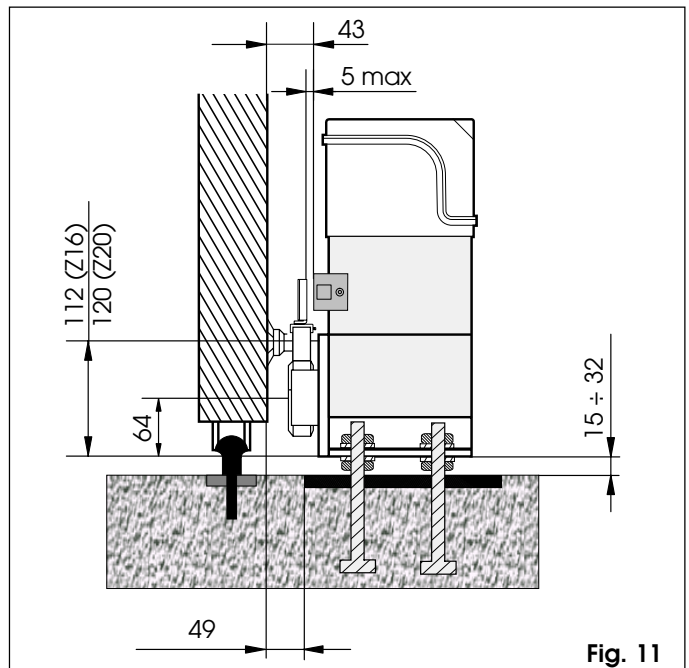

Fig. 11
- 4) Adjust height of the feet and distance from gate, consulting Fig.11.